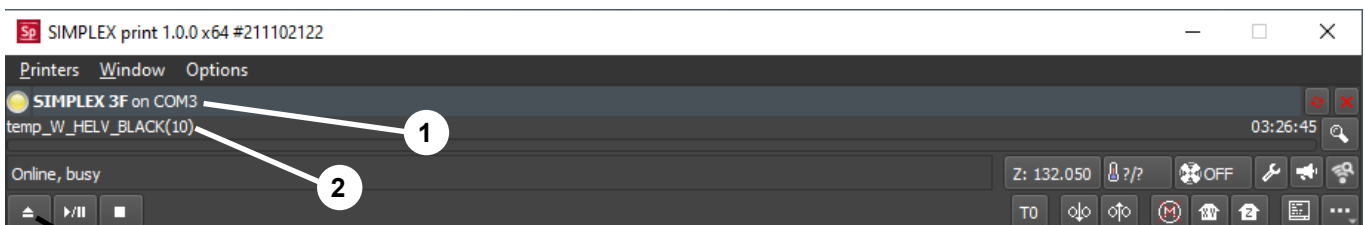

Fig. 67
- ◆ The SIMPLEX is shown in the status bar (1, Fig. 67)
- ⇒ Select and load the G-Code by clicking the load button (3, Fig. 67).
- ◆ The corresponding file name is shown in the status bar (2, Fig. 67)